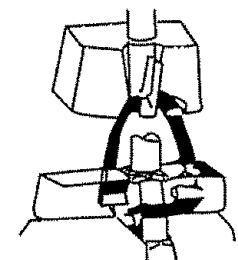

FIG. 9
6. The electric cord is wound around cord hooks as illustrated in (Fig. 9).